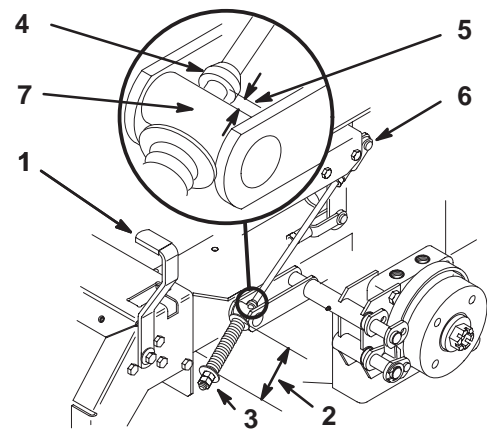

Figure 56
2. Measure the length of the spring. The measurement should be 2-3/4 in. (74 mm) between the washers (Fig. 56).
3. If an adjustment is necessary, loosen the jam nut below the spring and tighten the nut directly below the yoke (Fig. 56). Turn the nut until the correct measurement is obtained. Tighten the two nuts together and repeat on the opposite side of the unit.
6. Measure the distance between the trunnion roller and the collar on the brake rod. The measurement should be 3/16–1/4 in. (5–7 mm) (Fig. 56).
7. If an adjustment is necessary, loosen the jam nut directly below the yoke. Turn the bottom adjusting nuts until the correct measurement is obtained (Fig. 56). Tighten the jam nut at the yoke.